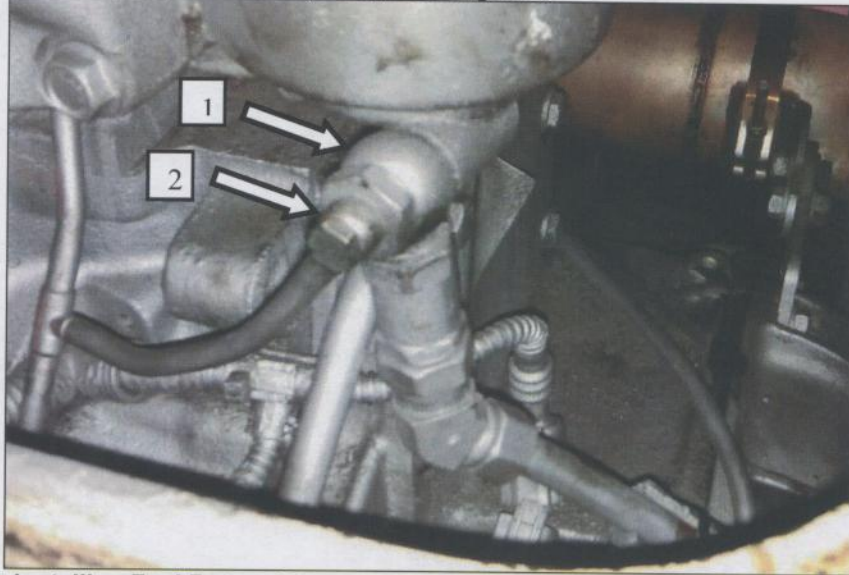

Figure 6 Installing Fuel Return Line
56. Install fuel return line with banjo bolt (1) and new seal rings part number N000000001070; torque to 16-23 N·m (12-17 lb·ft). See Figure 6.
57. Install the spill line (2) to the open end banjo on the fuel return line using seal part number N007603008103; torque to 7 N·m (5 lb·ft). See Figure 6.